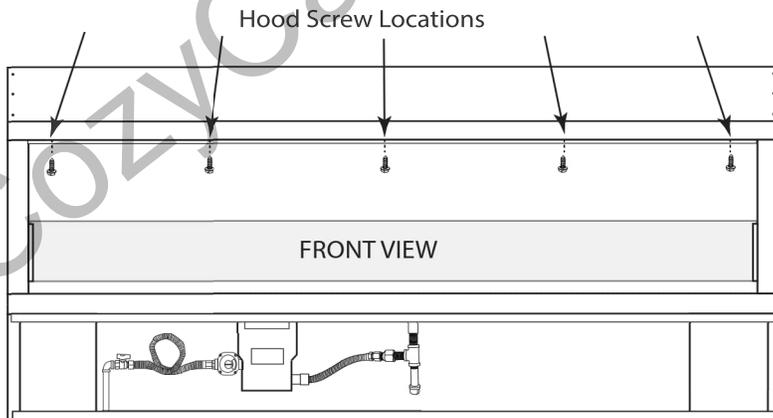

Figure 38 Show hood hole location, depending on size.
Step 25: The fireplace requires a hood to be installed into the upper opening of the firebox. All models require five (5) screws to secure the hood to the fireplace except the 72-inch model, which uses seven (7) screws (77129 - 8-32x1/2" stainless pan head) to secure the hood. The hood protrudes 1-inch from fireplace opening. Figure 38 shows hole location and installation process for hood installation. The protruding area of the hood is to be angled downward for proper installation, see Hood Detail below.